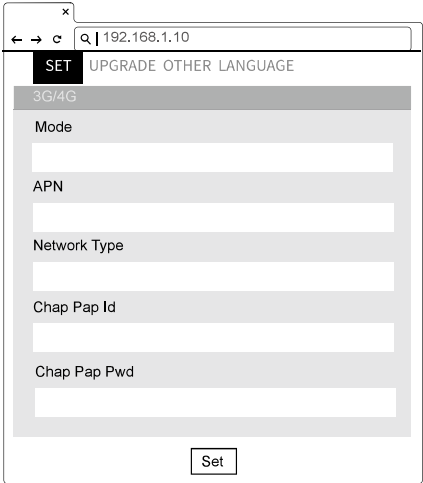

Figure 39. Network Information
5) Fill in the APN, Chap Pap Id, and Chap Pap Pwd information. See figure 39.